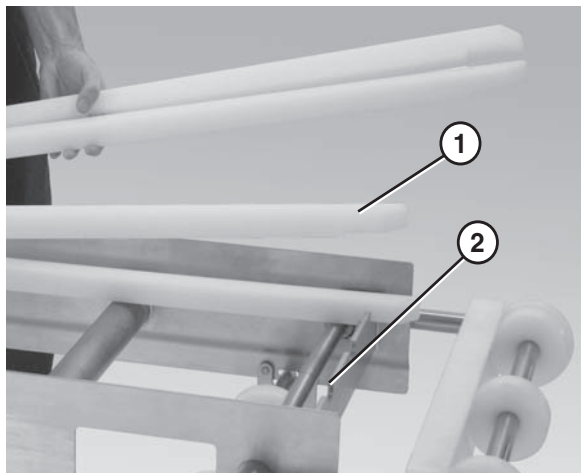

Figure 31
1. Position the wear strips (Figure 31, item 1) on the frame.
2. Make sure the wear strips are situated securely in the frame slots (Figure 31, item 2).